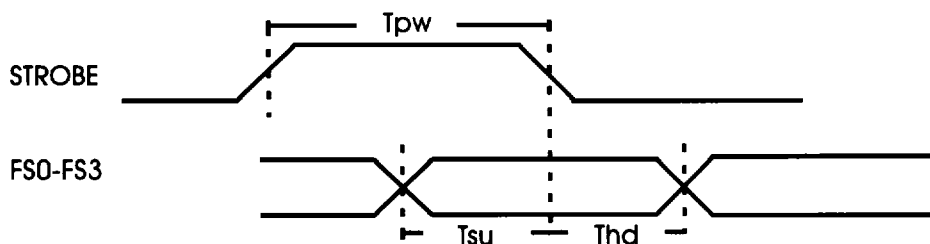

Figure 3
FS0 (4), FS1 (5), FS2 (7), and FS3 (8) are the TTL-compatible frequency select inputs for the binary code corresponding to the frequency desired. STROBE (6), when high, allows new data into the frequency select latches; and when low, prevents address changes per Figure 3. The internal power-on-clear signal will force an initial frequency code corresponding to an all zeros input state. MS0 (9), MS1 (11) and MS2 (3) are the corresponding memory select inputs and are not strobed.